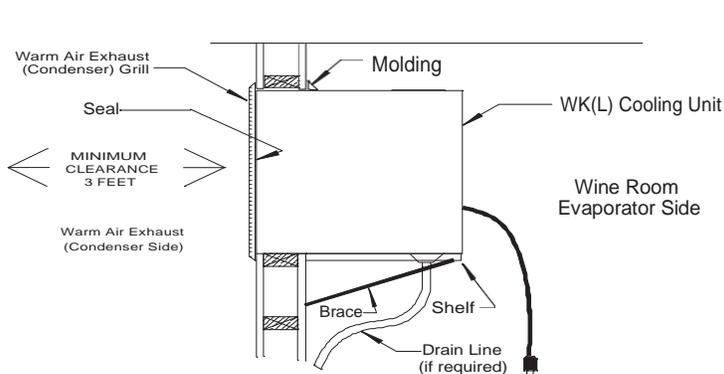
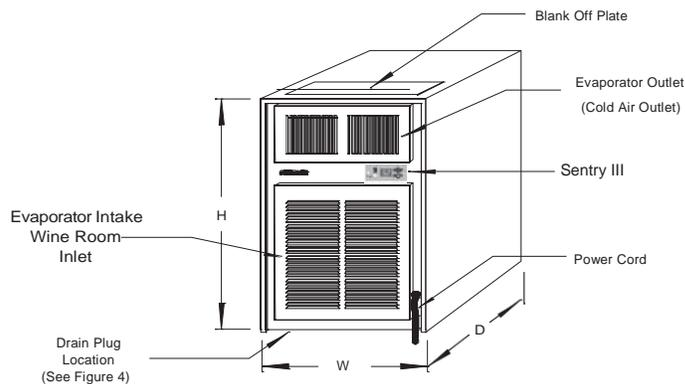

Figure 3
Figure 1
- ☞ This is a mechanical piece of equipment, it will make noise and produce heat on the warm side exterior condenser grille (Fig. 3). Remember, unit installation location is not only important inside the wine cellar, but just as important is where the warm side exhaust air is being rejected.
Before installing the unit, inspect it again for any shipping damage. Test the unit by placing it in a room where the temperature is above 65°F. Position the unit to allow cold air to flow from evaporator outlet. (See Fig. 1) Plug the unit's electrical cord into a properly grounded electrical outlet of adequate capacity (see unit specification for unit electrical requirements).
The Sentry III has no "off" position; therefore it will begin to run within 5 minutes of being plugged in. Allow it to run for a minimum of 15 minutes. There should be a flow of cool air from the evaporator side upper grille (see Fig. 1) and warm air should be flowing from the upper opening on the warm air exhaust (condenser) grille (see Fig. 3). If there is no airflow or no change in temperature on either side, contact your dealer.
side grille must remain unobstructed for 3 feet. It is preferred that the unit be mounted near the ceiling and as close to equal distance from each end of the wall as possible. If necessary, the WKL3000, WKL4000, WKL6000, and WKL8000 may be mounted near the floor if the upper grille is interchanged with the blank off plate so that the cold air will be directed up (see Fig. 1). There should be nothing above the unit to block airflow. Remove the insulation under the blank off plate with a knife.
Make sure that the warm air exhaust condenser grille can be properly attached to the unit (see Fig. 3).
If the unit is to be installed above floor level, construct a shelf as shown in Fig. 3. This shelf must be capable of supporting the weight indicated in the specifications. NOTE: Insulation placed between the unit and the shelf will reduce additional noise and help reduce condensate from forming on the underside of the unit.
Place the unit through the opening with the warm air exhaust side, flush to the outside of the wall (see Fig. 3). Attach the warm air exhaust condenser grille to the unit and to the wall with screws supplied with grille. Note: the unit may be installed with the cold side flush to the inside wall, however, two provisions must be made. First, insure the warm air exhaust grille will be installed. Second, insulate and vapor barrier the framed opening to prevent moisture in the wall from condensing on the cold surface of the cooling unit. Please remember that in all cases the warm air exhaust condenser grille must be directly attached to the warm side of the unit. Do not leave an air gap between the unit's surface and the warm air exhaust condenser grille. **The unit will not work properly without this grille.** The exhaust condenser grille has only a white primer coat. If the exhaust condenser grille is installed on an outside wall it should be coated with an appropriate paint.
**BREEZAIRE** is extremely proud of the quality and reliability of its products. Experience has shown that of the small number of problems encountered, the large majority are due to improper unit selection or enclosure construction. Should the cooling system be suspected of malfunctioning, check the temperature of the air being exhausted from the upper part of the warm air exhaust condenser grille. If it is warm, the unit is working. A further check may be made by comparing the air temperature entering the lower grille on the cold side (Evaporator side) with that leaving the upper cold side grille. (see Fig. 1) If the air leaving the unit is 6°F or more degrees colder than the temperature entering, the unit is working properly. In some cases, improper placement or installation may cause the unit's performance to be compromised. In situations where the ambient relative humidity is very low, the desired enclosure relative humidity may not be achieved without adding moisture. To add moisture to the enclosure only use slow, natural evaporation from a small porous water container. Do not use a humidifier.
Improper placement or installation may cause the unit's performance to be degraded. If the unit is exhausted into a confined area with poor ventilation or duct work, it will not be able to reject the heat and moisture it is removing from the enclosure and a malfunctioning unit will be suspected. If an obstruction to the flow of fresh air into or from the cooling unit (see Fig. 3) is stopped or restricted for any reason the unit could heat rather than cool the enclosure.